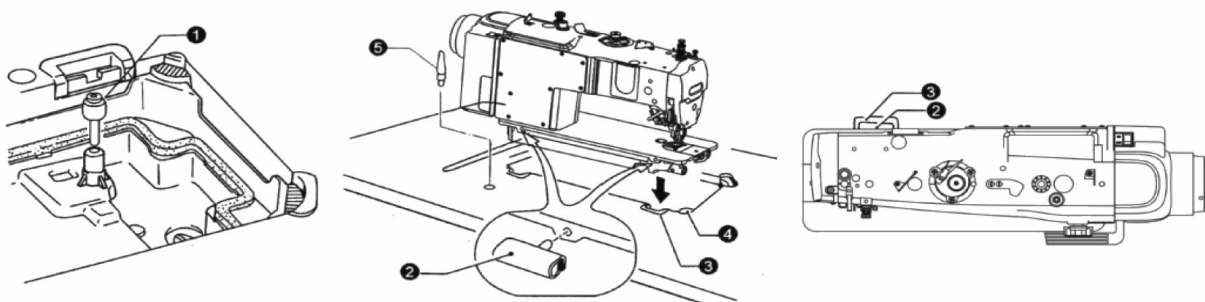

Figure 4
- Insert knee control to lift the top bar (1). See Fig.4.
- Put the two cover chains (2) into the two table holes.
- Insert the head support bar (5) into the hole.